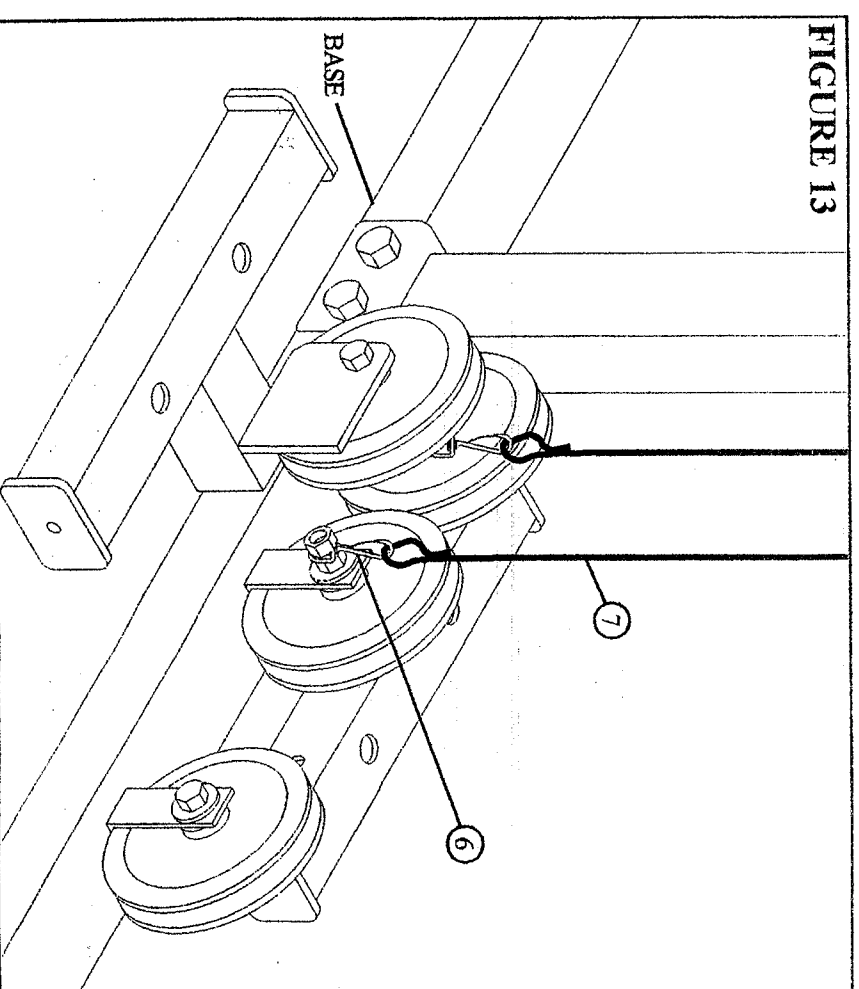

FIGURE 13
- Assemble the ELASTIC CORD (7) from the LEG PRESS CABLE to the corresponding SWIVEL SNAP (6) on the BASE as shown in FIGURE 13.